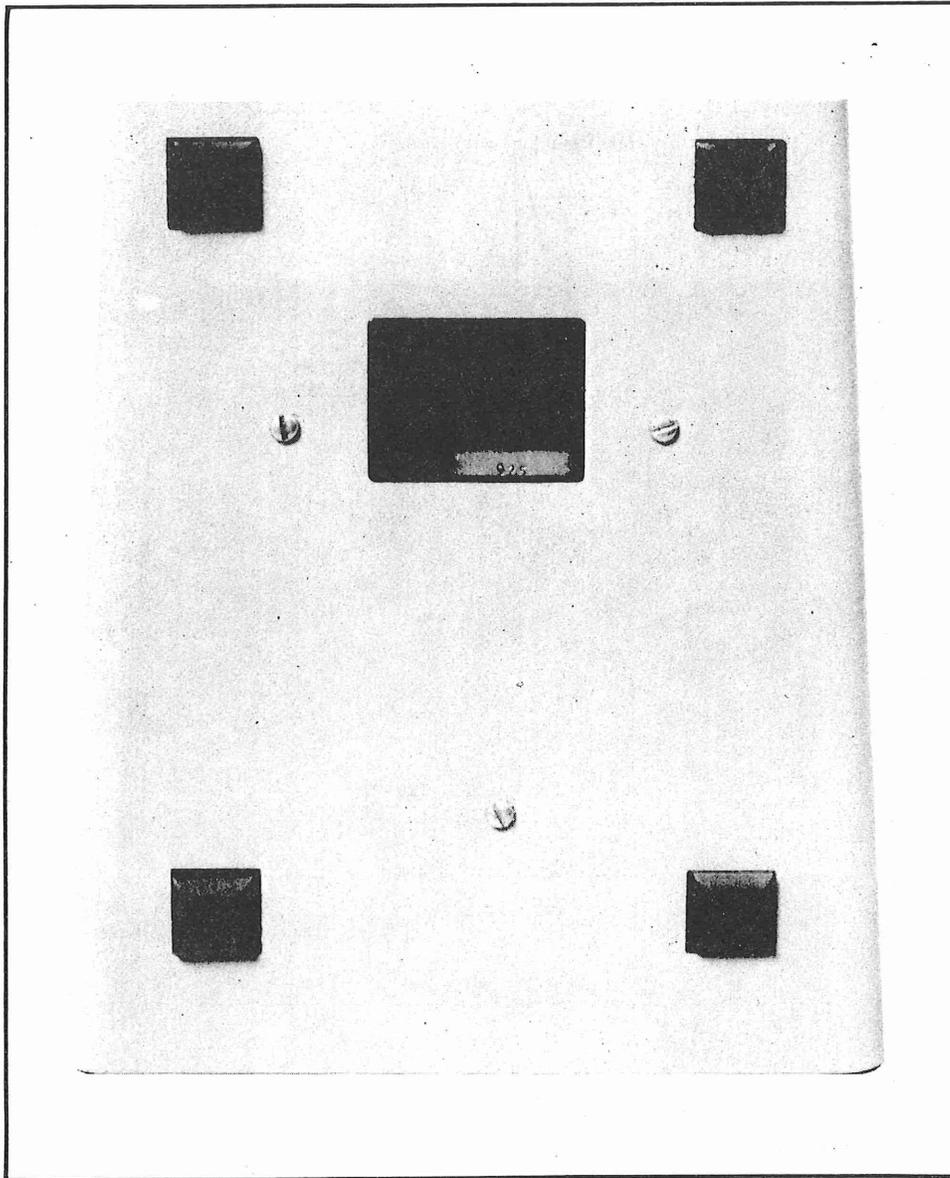

Figure 4-1. Terminal Bottom View
- (d) Remove the three #6-32 screws from the bottom of the terminal. (See figure 4-1.)
- (f) Install the three #6-32 screws on the bottom of the terminal. (See figure 4-1.)